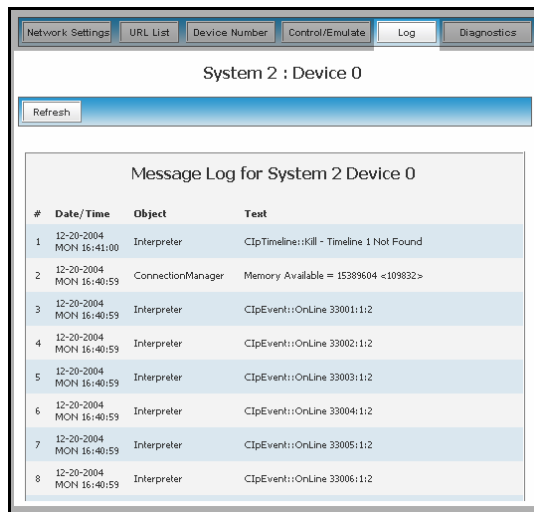

FIG. 56 Log dialog
3. Click the **Log** button (FIG. 56). This dialog allows the user to view the log for the selected device (*currently only the Master supports this feature*).